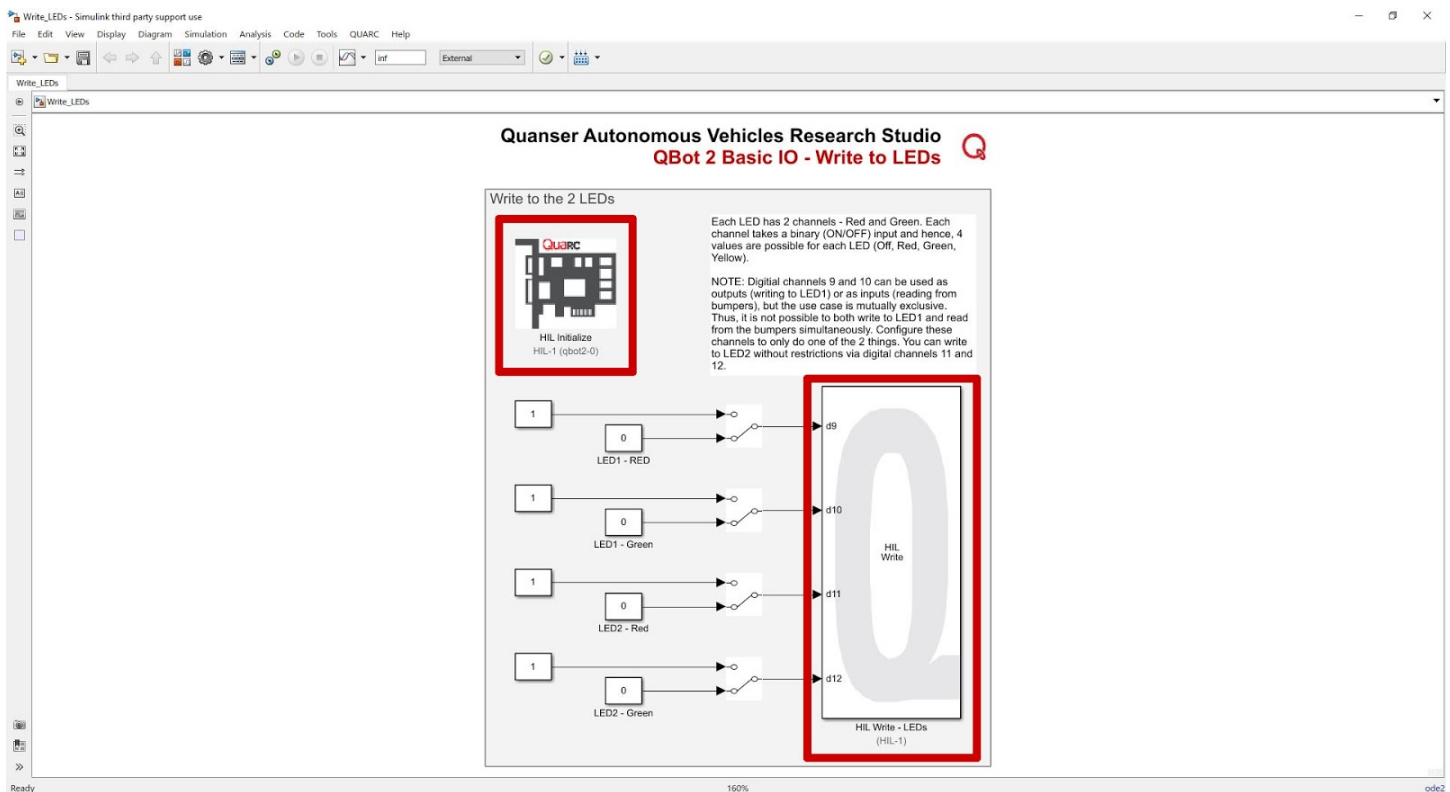

Figure 1: Write\_LEDs.slx model, highlighting the HIL Initialize and HIL Write blocks
1. Under the Guides and Resources > Basic IO > QBot 2 > Software folder, open Write\\_LEDs.slx (Figure 1)